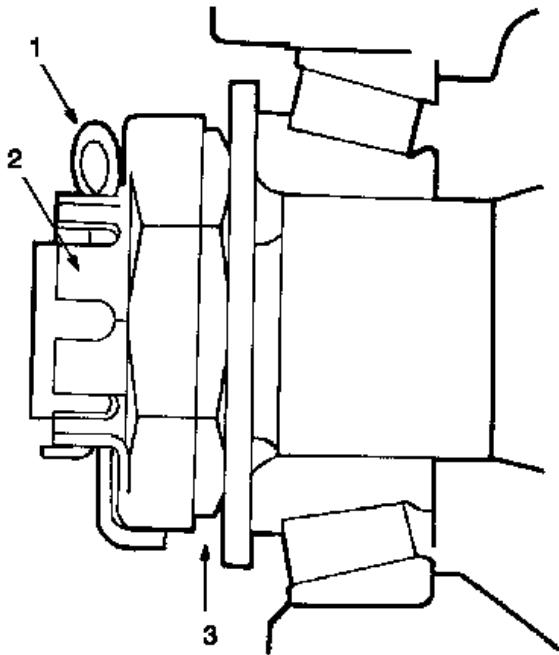

Figure 19 Correctly Installed Cotter Key
4. Install the cotter key. A correctly installed cotter key should have the appearance as shown in Figure 19.